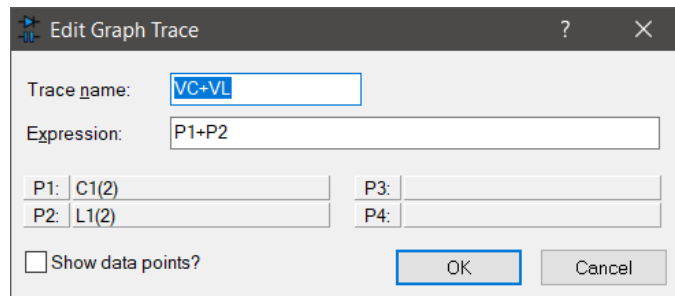

Figure 8 - Parameters to show Bandwidth and Q factor.
Calculating the total voltage across the inductor and capacitor by adding the values from C1(2) and L1(2) together as shown in Figure 8.